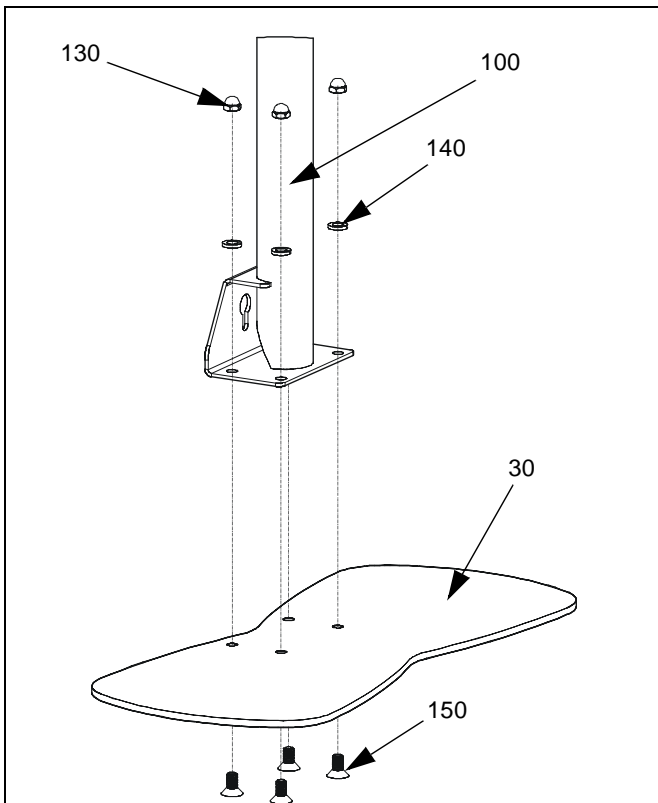

Figure 2: Assemble Uprights to Base
1. Align mounting holes in R.H. upright (100) with mounting holes in R.H. base (30). (see Figure 2)
2. Insert four FHCS (150) through mounting holes in bottom of R.H. stand base (30) and through mounting holes in R.H. upright (100).
3. Secure R.H. upright (100) to R.H. stand base (30) using four LW (140) and four acorn nuts (130).
4. Align mounting holes in L.H. upright (100) with mounting holes in L.H. base (30).
5. Insert four FLCS (150) through mounting holes in bottom of L.H. stand base (30) and through mounting holes in L.H. upright (100).
6. Secure L.H. upright (100) to L.H. stand base (30) using four LW (140) and four acorn nuts (130).